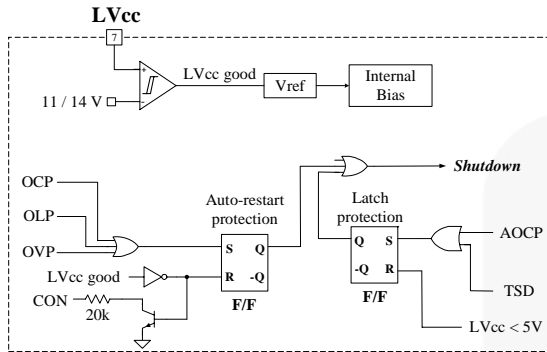

Figure 24. Protection Blocks
**5. Protection Circuits:** The FSFR-series has several self-protective functions, such as Overload Protection (OLP), Over-Current Protection (OCP), Abnormal Over-Current Protection (AOCP), Over-Voltage Protection (OVP), and Thermal Shutdown (TSD). OLP, OCP, and OVP are auto-restart mode protections, while AOCP and TSD are latch-mode protections, as shown in Figure 24.